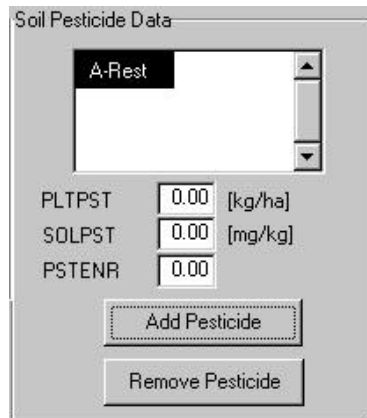

Figure 12.77
- d. If the user added a pesticide, the pesticide name will appear in the list of pesticides in the Soil Pesticide Data section (Figure 12.77).